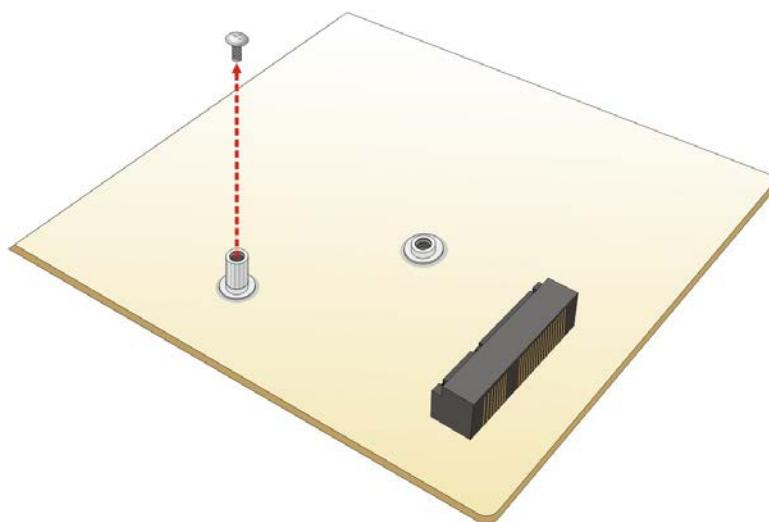

Figure 4-8: Removing the Retention Screw
Step 2: Remove the retention screw. Remove the retention screw as shown in **Figure 4-8**.